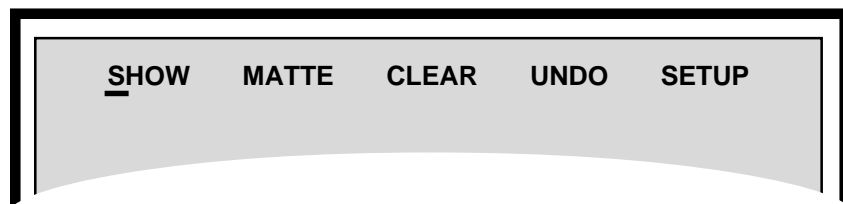

Figure 2.17
2. **Tilt the joystick to the left or right to ensure that the cursor is positioned under SHOW to show the coordinates or under HIDE to hide the coordinates** (refer to Figure 2.17).